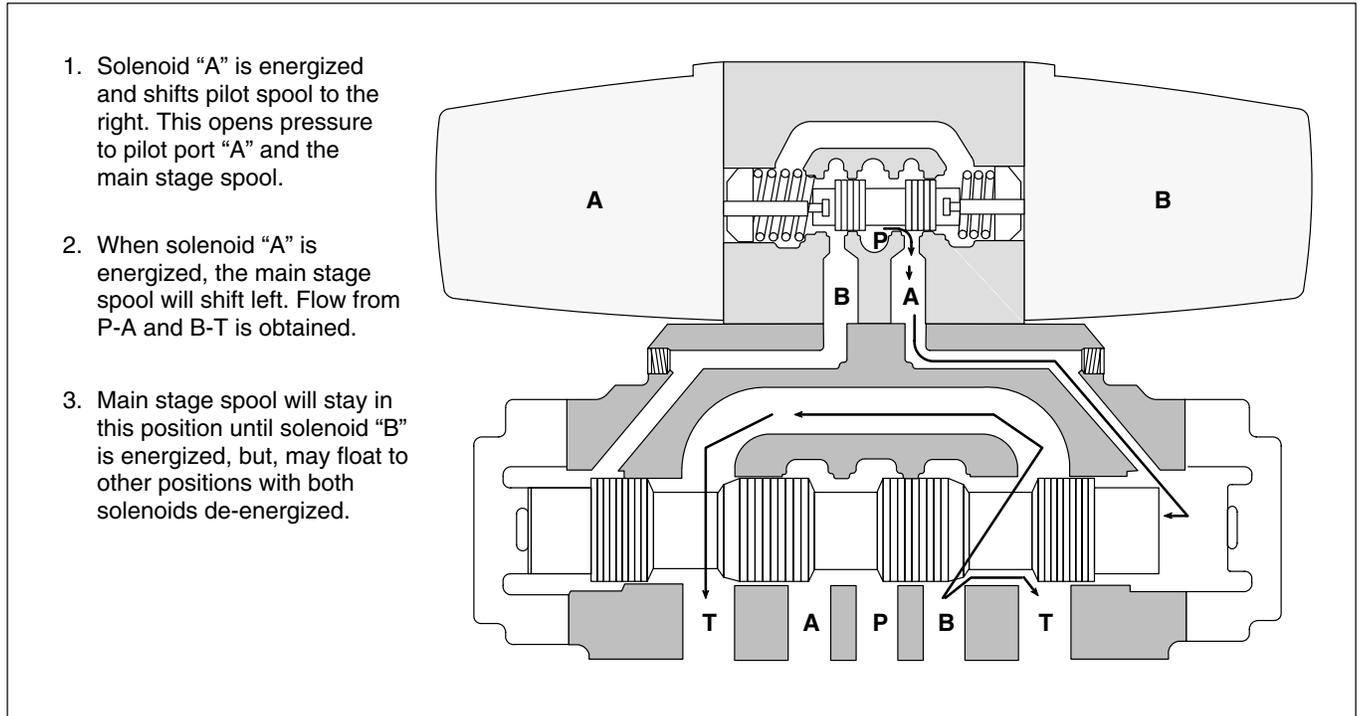

Figure 4. No Springs, Floating Model
**3. Integral Pilot Valve:** The integral pilot type two stage valve is a very common valve used in the field today. Two stage valves allow large volumes of fluid to be switched to and from an actuator with minimum power required for control. Reference Figures 4 through 8, shown in the following section.
1. **No Spring-Floating:** When centering springs are omitted from the main stage spool, the spool is said to be floating. If control pressure is removed, a floating spool can move from its last position under the influence of gravity or tank line pressure. This must be considered during the design of the system. Units with floating type spools have the model code letter omitted. (Example: DG3S4/DG4S4-062-\*\*-51) Figure 4 illustrates floating spool positioning in a two-stage valve.